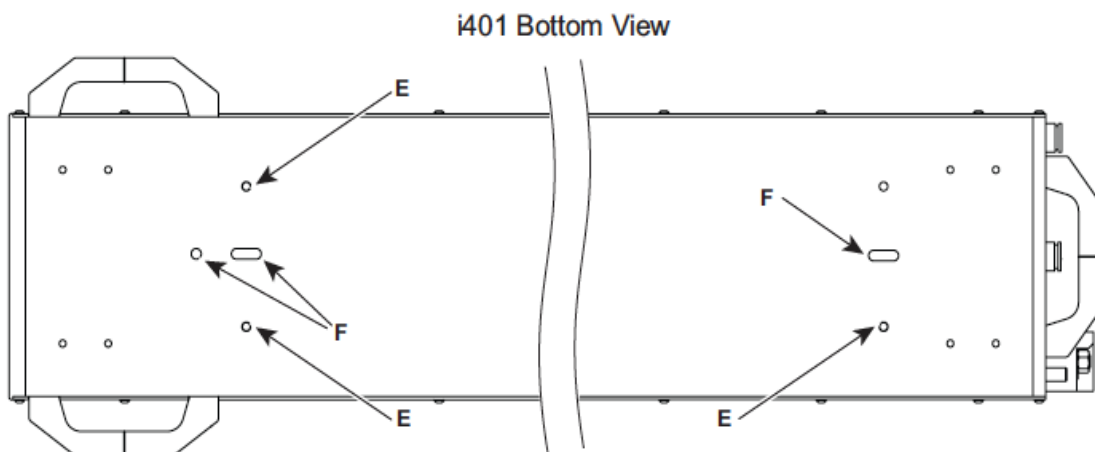

Figure 1-6 Mounting locations for three-point mount without feet.
- 3 Refer to the i401 outline and mounting drawing (Sheet 2 of 2) for Option 'B' mounting dimensions, then drill three 10.6 mm (close fit) or 11.2 mm (normal fit) thru holes in your mounting surface. These holes should correspond with the fastener locations labeled "E" shown in Figure 1-6.